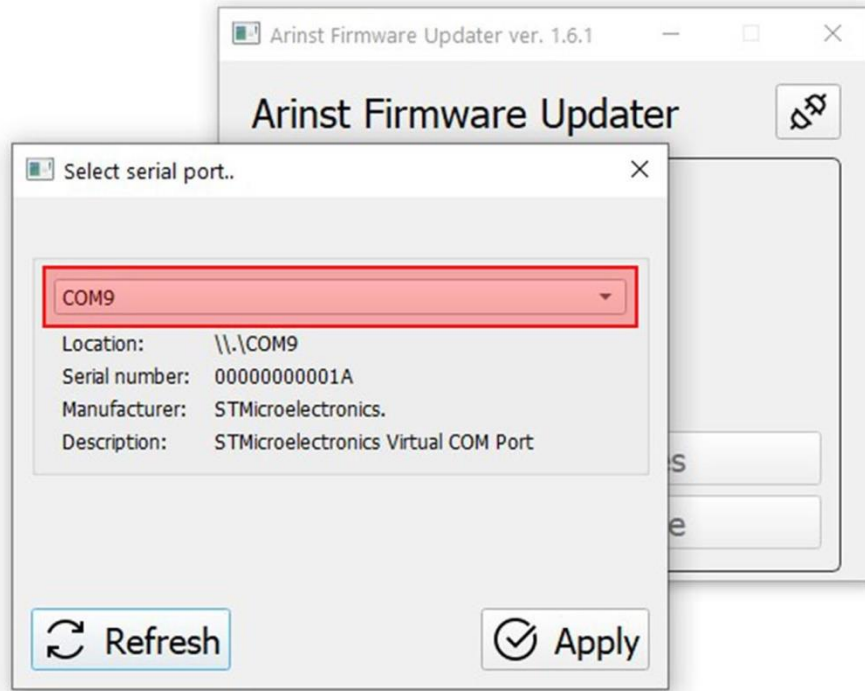

Figure A2.2 - Selecting a virtual COM port for connecting the device
2.4. In the window that opens, from the drop-down list select the virtual COM port for connecting the device (Figure A2.2).
*In our example, in Figure A2.2, the COM9 virtual port is selected.*